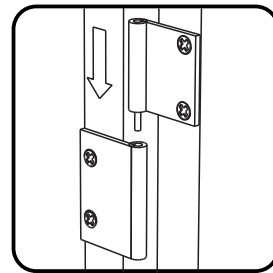

Figure 4
Attach Doors (J) and (K) to unit by sliding door hinges into side panel hinges. (See Figure 4)